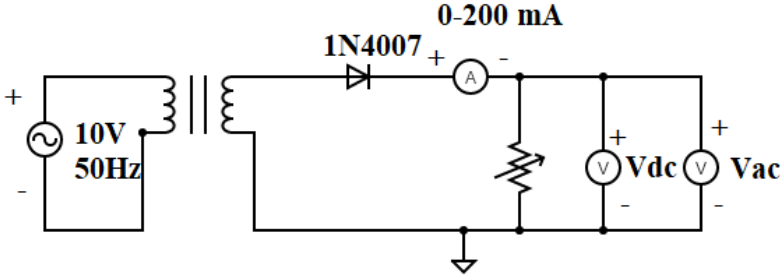

Figure 5.1: Circuit Diagram for Half Wave Rectifier without Filter
1. Connect the circuit as shown in Figure 5.1.